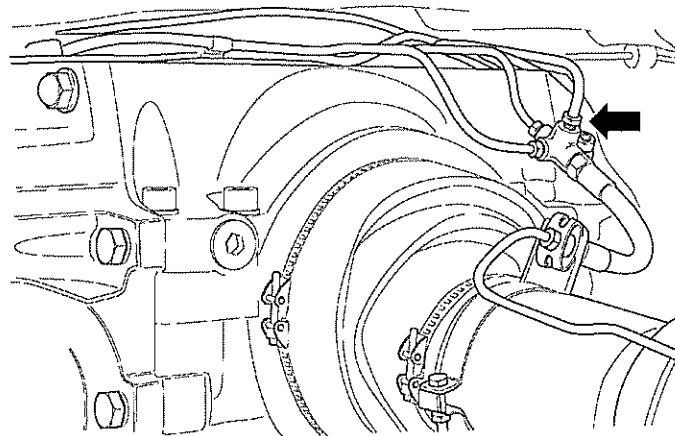

Fig 16 Brake pipe distributor
- 8.11 Unscrew brake pipe to first rear axle at distributor (see Fig 16).